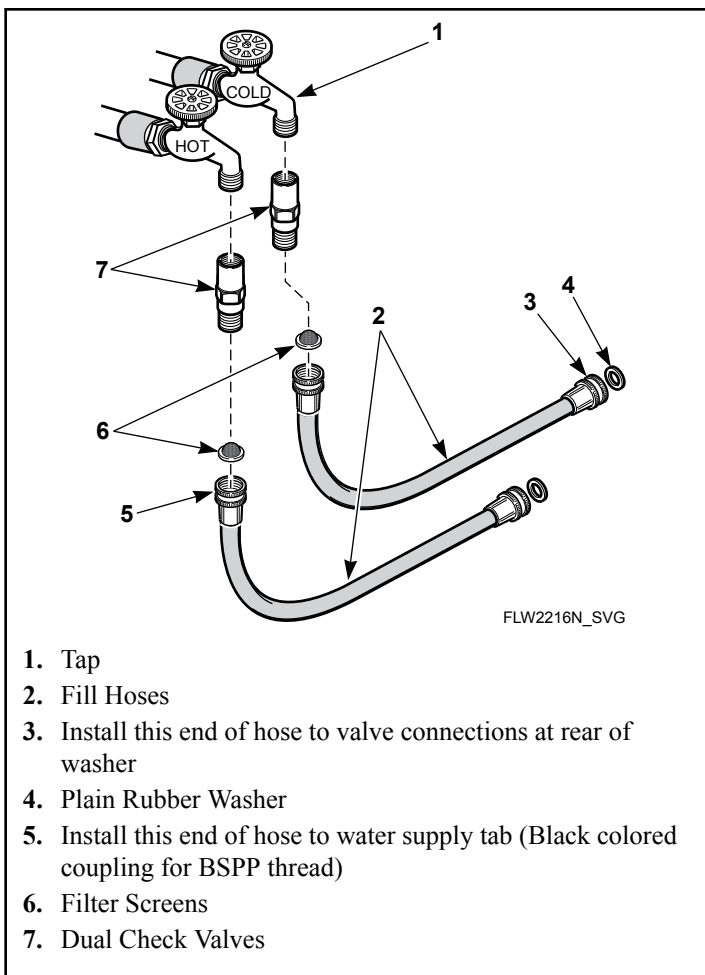

Figure 28
- in accordance with standard WMTS-101 an approved dual check valve backflow prevention device with the watermark must be fitted at the point of connection between the supply and the fitting. Refer to *Figure 28*.